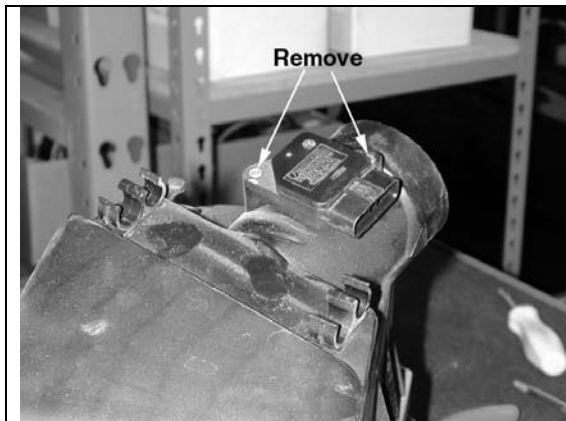

Fig. 13
- j) Remove the MAF sensor from the stock air box assembly. (**Fig. 13**)